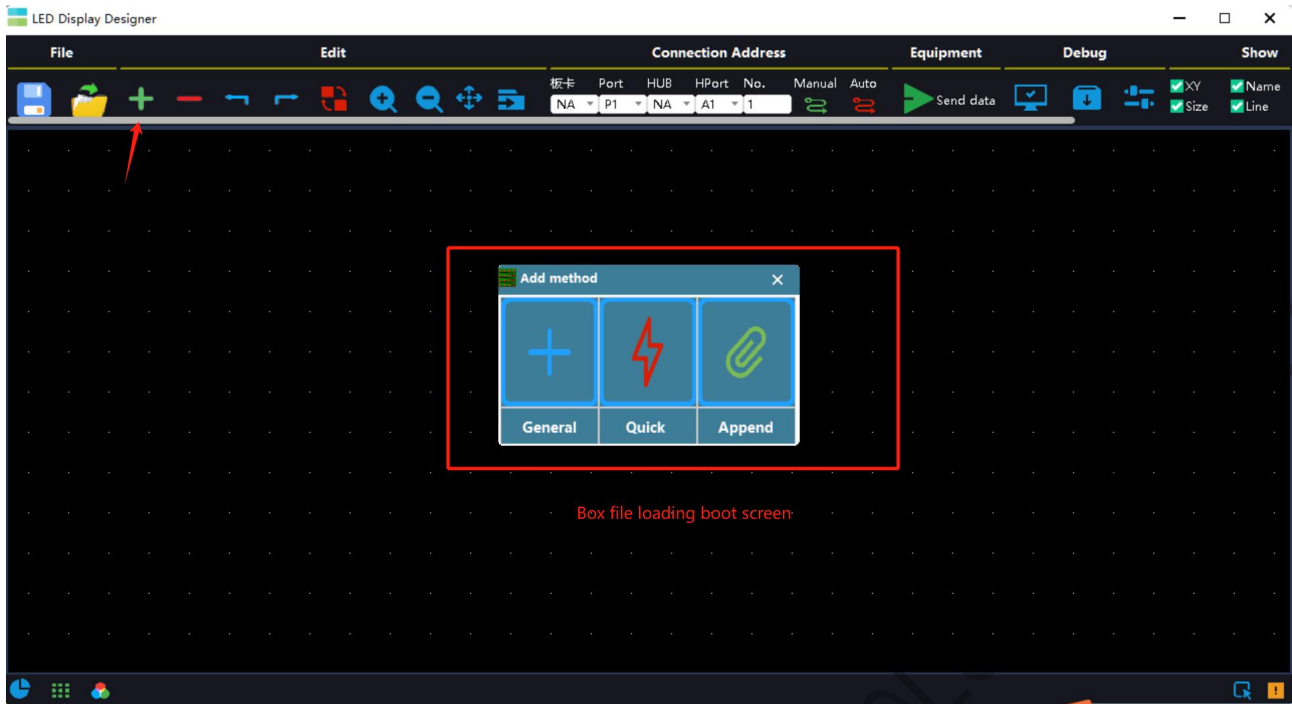

Figure 4-3-1 Display file loading method
(1) Click the 'Professional' button, enter the Professional debugging interface window, in the window menu bar, click the '+' button, pop-up 'file loading guidance interface' In this interface, select the display configuration file loading method, as shown in Figure 4-3-1.